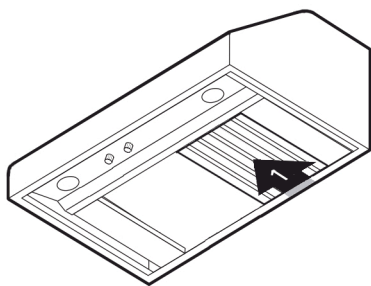

FIGURE 12: REMOVE THE STAINLESS STEEL BAFFLES – PART A
- a. Push up on rear of baffle to clear the catch and slide towards the front of the hood (FIGURE 12).